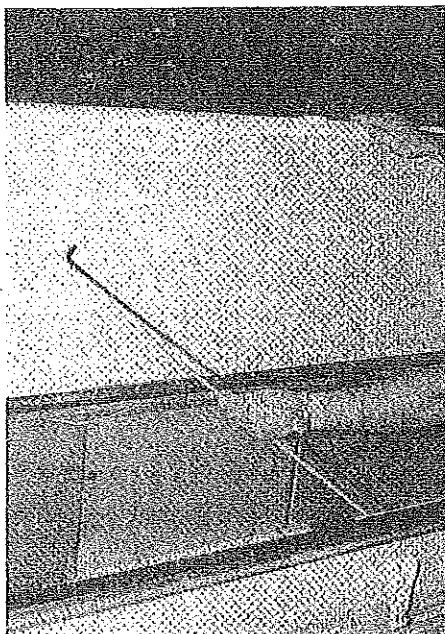

FIGURE 33
2. Lift the trunk storage lid. Remove prop rod from the retaining brackets located along the front rail. Insert the free end of prop rod into the retainer on the trunk lid to hold in the open position. See Figure 33.